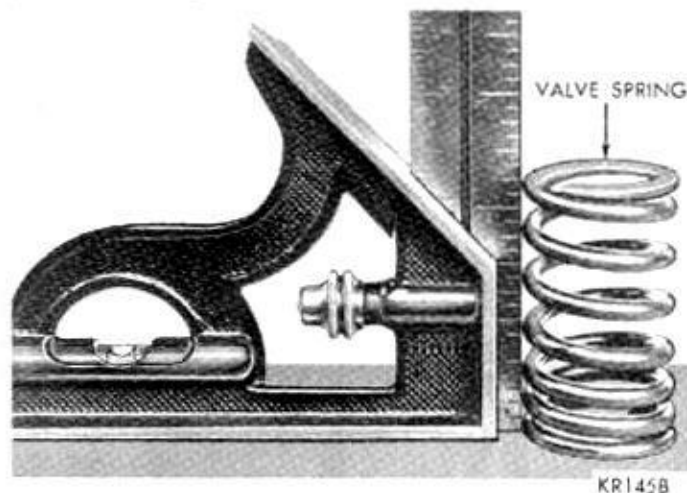

Fig. 13—Checking Valve Spring Squareness
(2) Inspect each valve spring for squareness with a steel square and surface plate, test springs from both ends (Fig. 13).